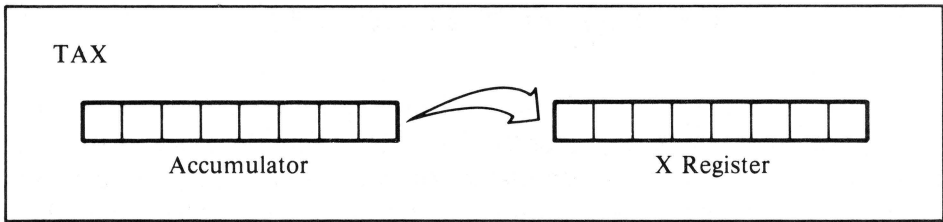

Figure 8-5. Transfer from accumulator to X register
- TAX — Transfers the contents of the accumulator to the X register (see Figure 8-5).